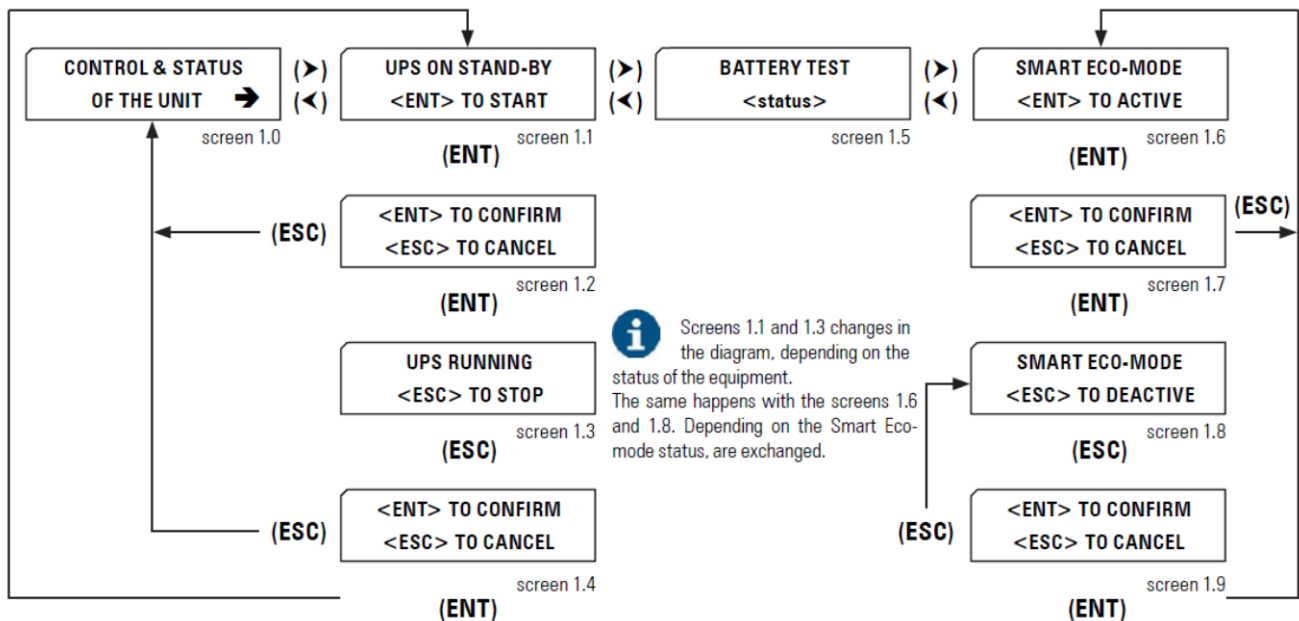

Fig.33. Procedure start-up / shutdown.
6.3.3 "PARAMETERS" level (screen menu 3.0). See Fig. 33.